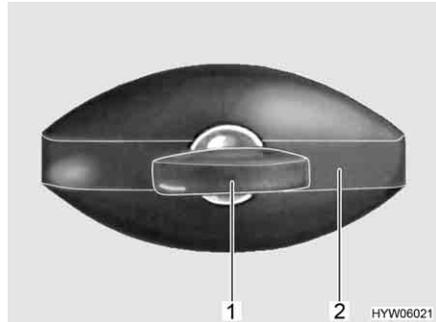

Fig. 33 Flap lock, elliptical-shaped, closed
- Insert key into locking cylinder (Fig. 33,1) and turn a quarter turn in an anti-clockwise direction. The lock handle (Fig. 33,2) snaps out.